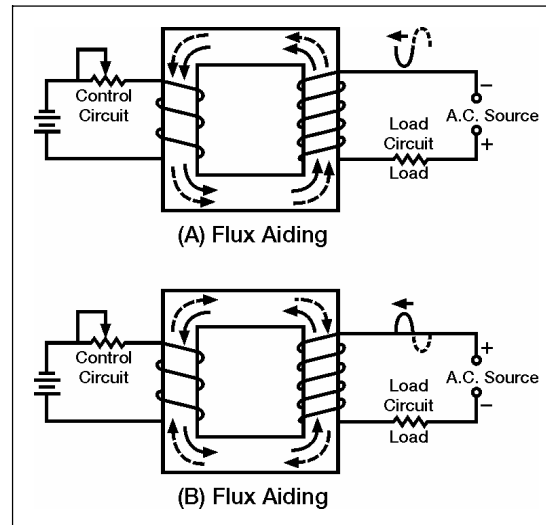
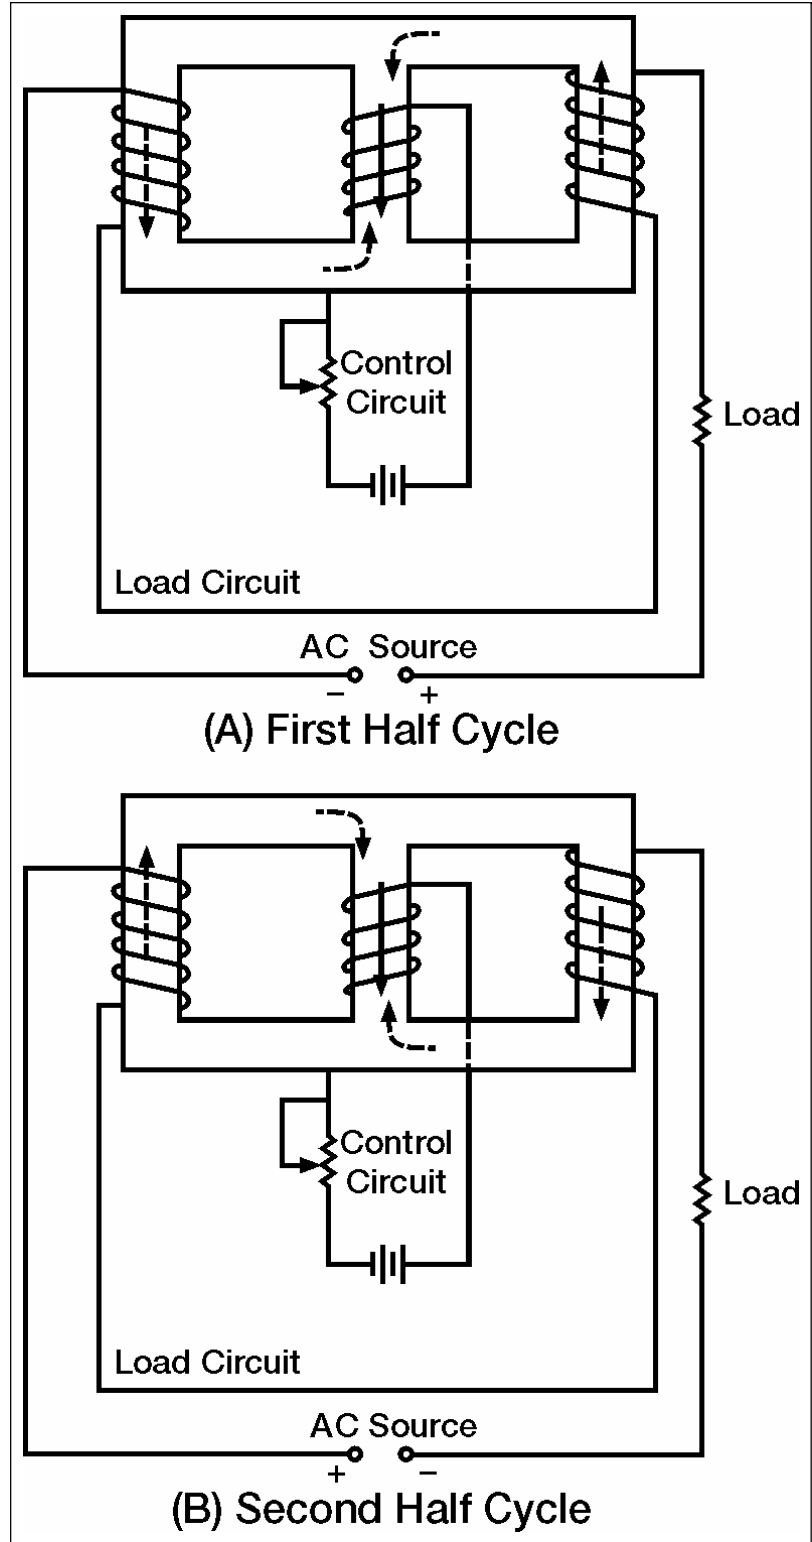

Figure 7-32. Flux Paths in a Saturable-core Reactor
Figure 7-33. Three-legged, Saturable-core Reactor
7-119. If a DC voltage is applied to the control winding of a saturable-core reactor and an AC voltage is applied to the load windings, the AC flux will aid the DC flux on one half cycle and oppose the DC flux on the other half cycle (see Figure 7-32). The dashed-line arrows show the load flux and the solid-line arrows show the control flux. View (A) shows the load and control flux aiding during one half cycle of the AC. View (B) shows the load and control flux opposing during the other half cycle of the AC. This situation causes the operating point of the saturable-core reactor to shift with the applied AC. However, the situation would be better if the load flux was not an influence on the control flux. Figure 7-33 shows a circuit in which this is accomplished.
7-120. During the first half cycle, the load circuit flux (dashed-line arrows) cancels in the center leg of the core (see Figure 7-33, view (A)). As a result, there is no effect upon the flux from the control circuit. During the second half cycle, the polarity of the AC (and therefore the polarity of the flux) reverses as shown in view (B). The result is the same as it was during the first half cycle. There is no effect upon the control circuit flux.
7-123. Figures 7-33 and 7-34 represent practical, workable saturable-core reactors. Circuits similar to these are actually used to control lighting in auditoriums or electric industrial furnaces. These circuits are sometimes referred to as magnetic amplifiers; however, that is not technically correct. A magnetic amplifier differs from a saturable-core reactor in one important aspect and that is a magnetic amplifier has a rectifier in addition to a saturable-core reactor.